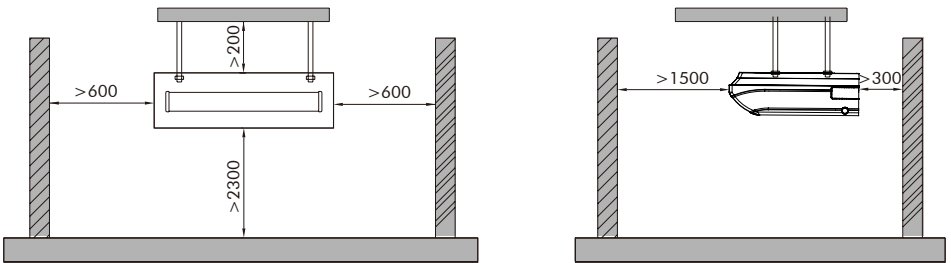

Fig.2
- (1) Install the unit at a place where is strong enough to withstand the weight of the unit.
- (2) The air inlet and outlet of the unit should never be clogged so that the airflow can reach every corner of the room.
- (3) Leave service space around the unit as required in Fig.2.